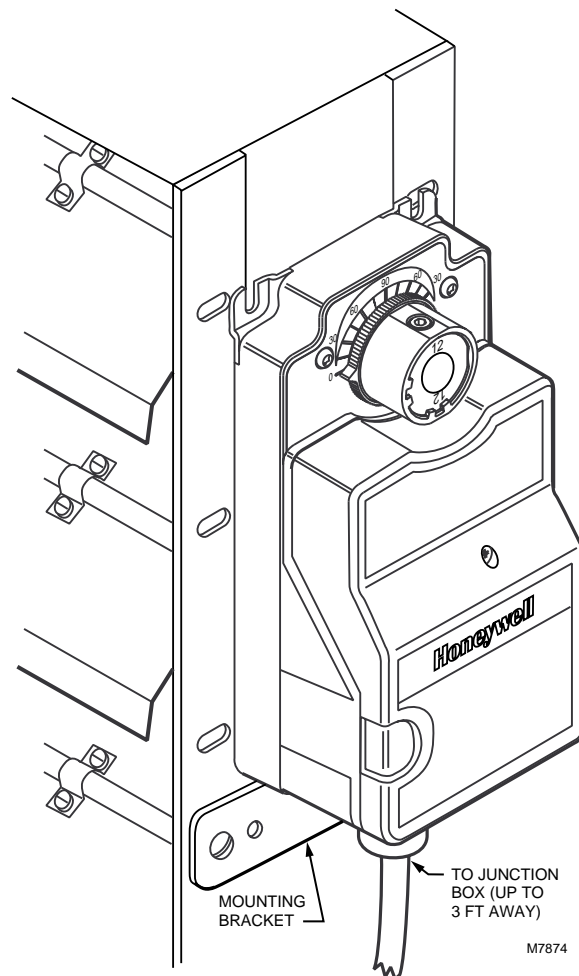
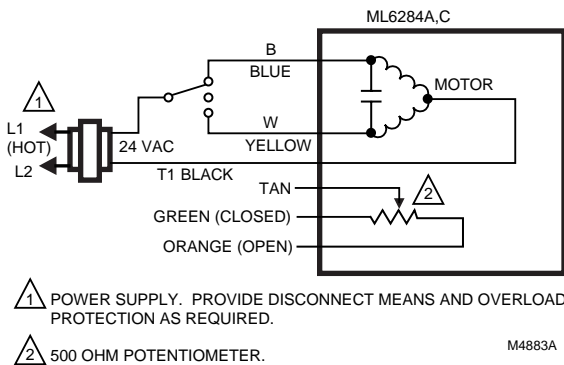

Fig. 4. ML6284 Actuator typical mechanical connection.
Fig. 5. ML6284A,C typical wiring diagram.
A typical actuator mechanical connection is shown in Fig. 4; wiring diagrams in Fig. 5 through 10.
All wiring must comply with local electrical codes, ordinances and regulations. The ML6284 is designed for use with a Class 2 power supply. Voltage and frequency of the transformer used must correspond with the characteristics of the motor and those of the power supply. Standard electrical connection is shown in Fig. 4. See Fig. 5 and 6 for typical wiring connections.
- ❶ Check the actuator position indicator and the damper shaft position to see that they agree.
- ❷ If the actuator has timeout function, apply 24 Vac to black (T1) lead and red (T2) lead. See Fig. 5.
- ❸ Apply 24 Vac control signal to blue (B) lead with respect to black (T1) lead (see Fig. 5). Actuator should drive damper open.
- ❹ Apply 24 Vac control signal to yellow (W) lead with respect to black (T1) lead (see Fig. 5). Actuator should drive damper closed.
- ❺ If 24 Vac control signal is removed, actuator should stop.